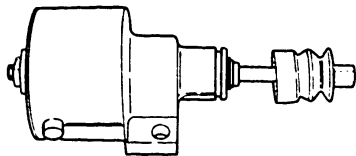

Fig. 74 Rubber boot removal
- 1. Remove the aneroid compensator rubber boot (170/12) from the housing. (Fig. 74)**